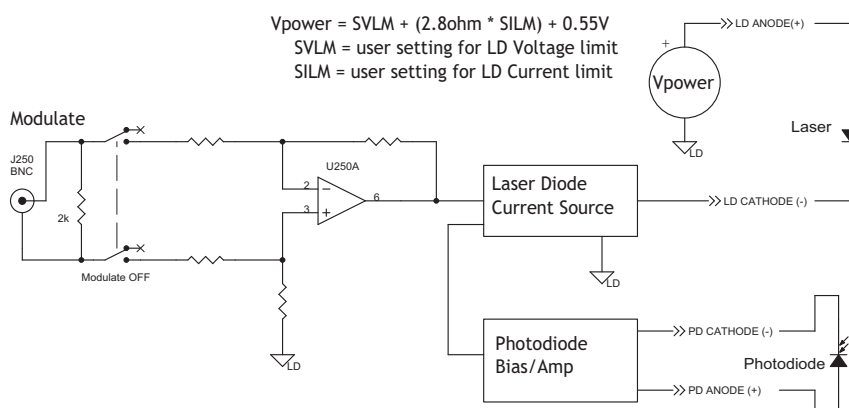

Figure 1.2: The laser diode drive circuitry (simplified).
or 1000 mA and 2000 mA (LDC502). For both ranges, there are two control modes for the magnitude of the current source output: constant current (CC), and constant optical power (CP). A simplified circuit diagram is in Figure 1.2.
It is important that the user understand the internal grounding arrangement of the LDC500 when using analog modulation with a ground-referenced laser diode. As can be seen in Figure 1.2, the center and outer conductors of the Modulate BNC input are received differentially by an input amplifier which then modulates the LD current source. The “ground” symbol in the figure, labeled “LD”, is *not* chassis ground or any other externally-referenced potential; it is simply an *internal* reference potential for the LD current source. If the user’s laser is isolated from ground, then an earth-referenced signal connected to the Modulate BNC will cause the “LD ground” to come to earth.